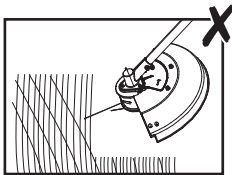
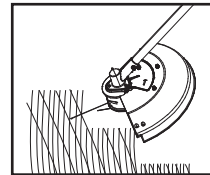

Fig. 22
Fig. 23
6. Ensure the cutting device remains clean and free from off-cuts that may cause it to jam. Check regularly. Release the on/off switch (7) and disconnect the product from the power supply before checking.
7. Trim longer grass in stages; do not cut long grass in one cut (Fig. 22). For the best results, cut longer grass in steps (Fig. 23).